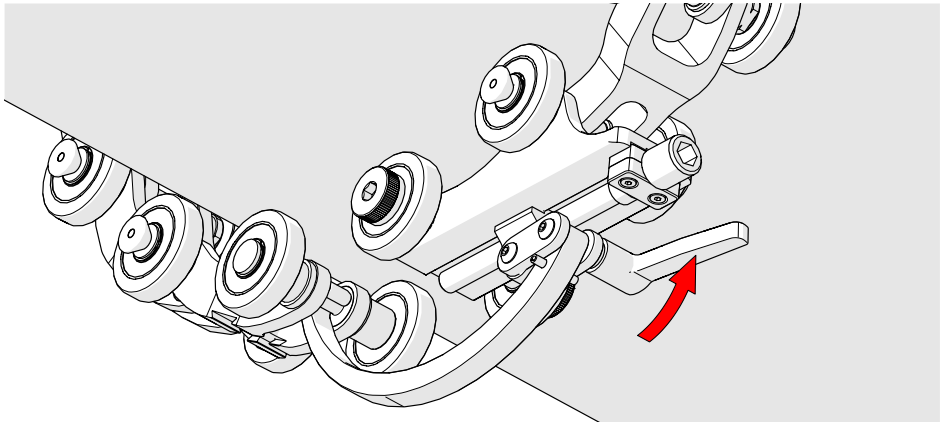

Fig. 127 - Press down to lock
7. Rotate the buckle adjustment knob until the buckle's lever can be pushed down, locking the buckle in place (Fig. 127). The tightness of the **ROTIX** on the pipe can be adjusted using the buckle adjustment knob (Fig. 126-1).